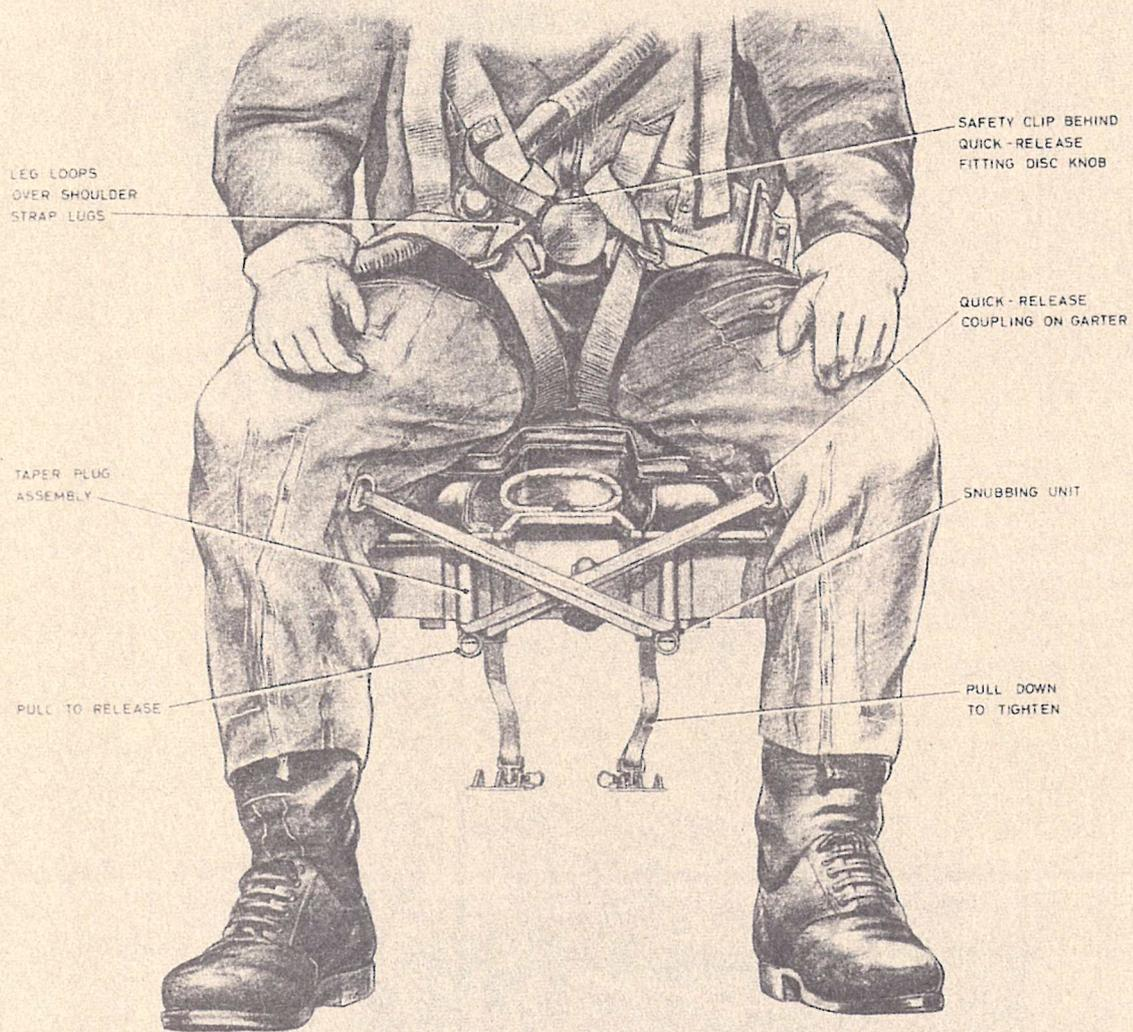
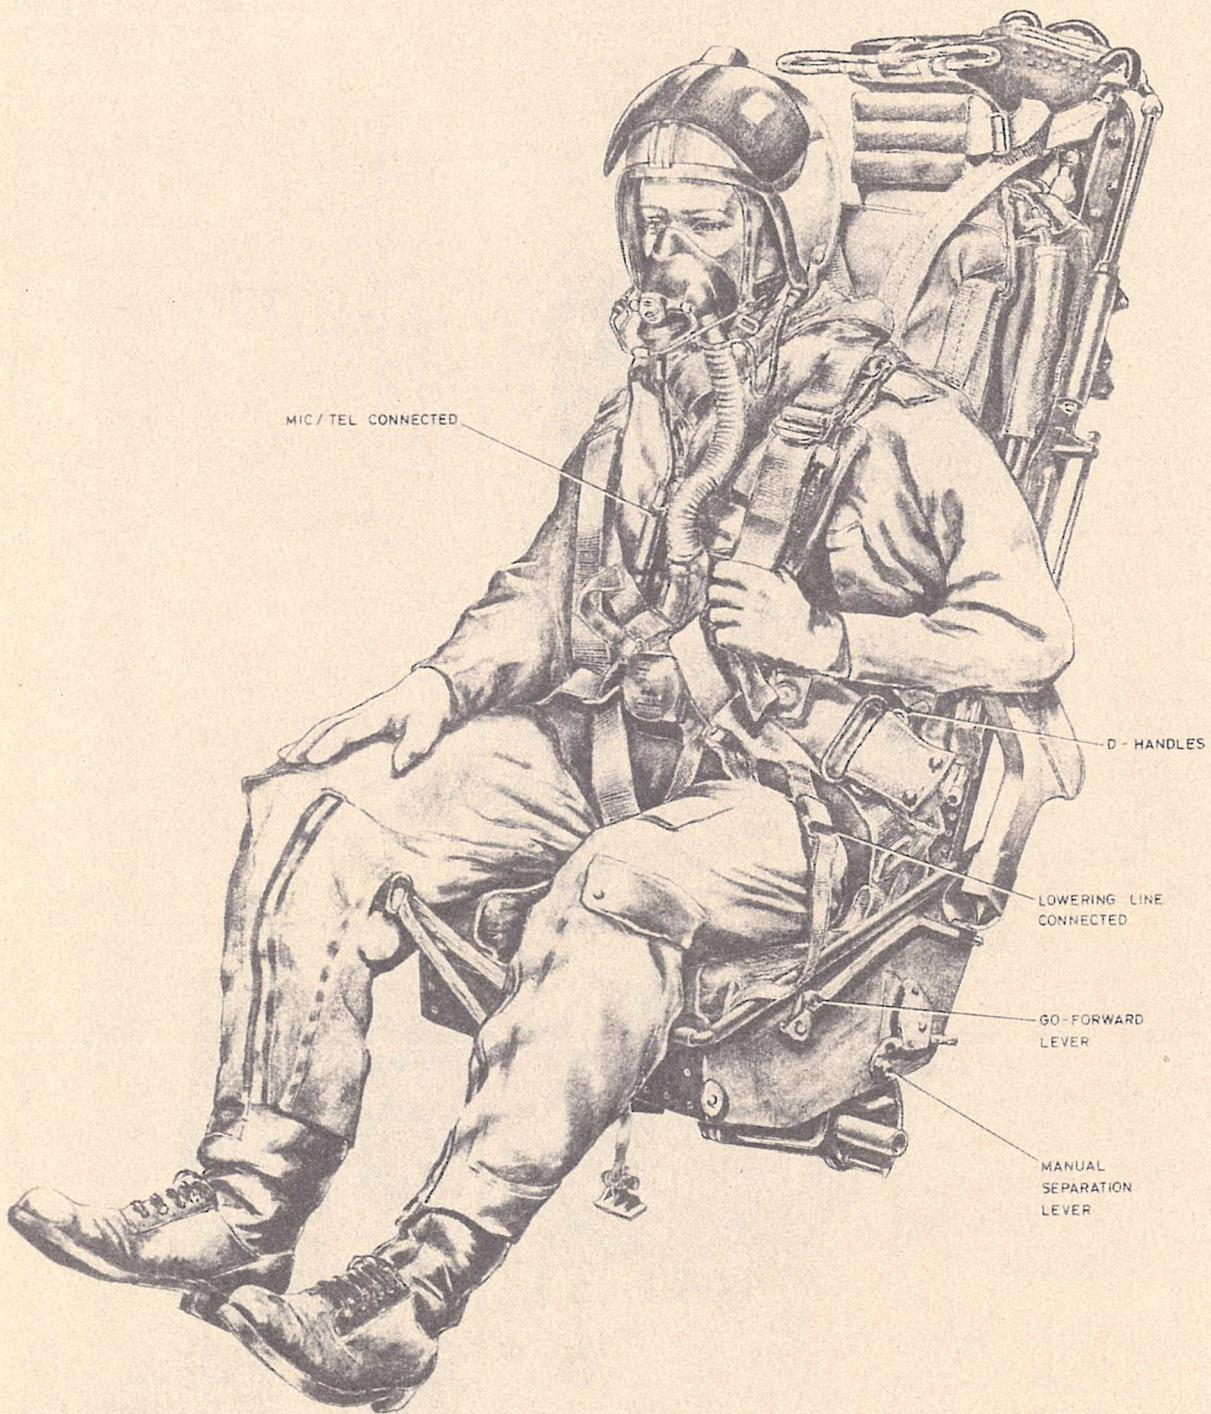

Fig. 9. Assembling the leg restraint cords and harness
Fig. 11. The seat occupied (2)
- (1) *If there is insufficient length of cord, pull forward on the ring in the front of the snubbing unit to release more cord.*
- (2) *Unless the personal component of the P.E.C. is mating correctly with the seat component, the plug will not lock in its socket.*
- (6) Similarly thread the port cord through the right garter and back to the port taper socket, thus crossing the cords. It does not matter which loop is in front, but do not interlace them (fig. 9).
- (7) Pull back any excess of restraint cord through the snubbing units, leaving enough slack for full rudder operation.
- (8) Adjust the height of the seat until a satisfactory position for flying is obtained, ideally with the head positioned centrally against the head-rest cushion. Stretch the arms upwards towards the firing handle to ensure there is no restriction to firing handle access by the flying clothing.
- (9) Connect the survival pack lowering line on the left side to the quick-release coupling on the life jacket or pressure jerkin. The line should lie across the left thigh (fig. 11).
- (10) Bring the harness waistbelt across the body. Adjust the quick-release fitting so that it lies centrally with the waistbelt close to the body (draw up